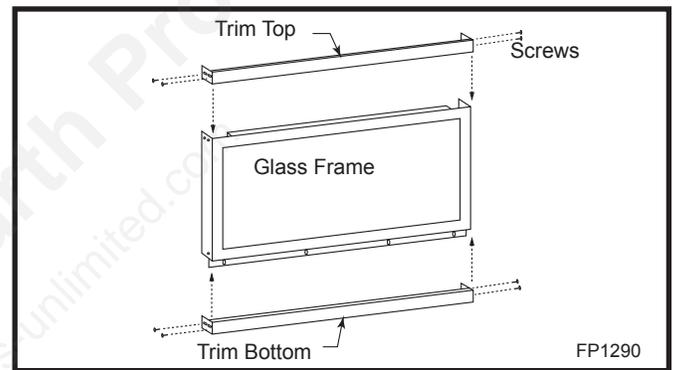

Fig. 28 Install top and bottom brass trim.
- Install top and bottom brass trim by using the shortest black screw. (Fig. 28 & 29)